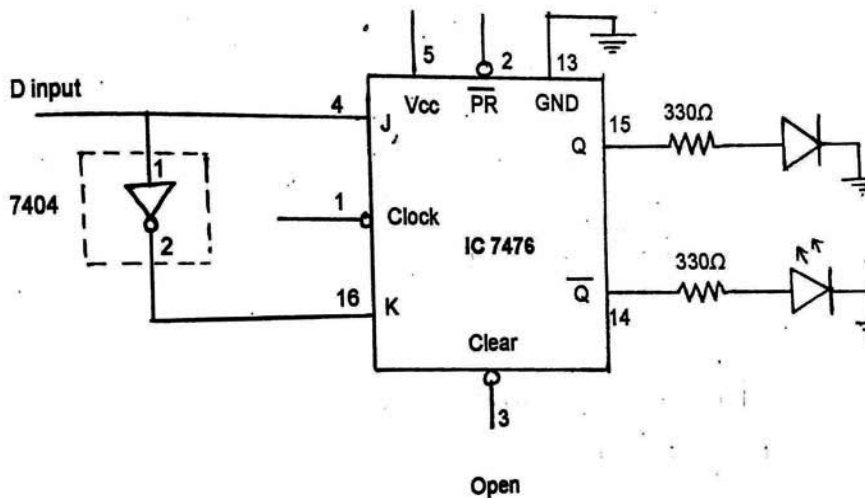

Figure 12.3 D FF using 7476
2. Make the connections as shown in figure 12.3 and 12.4